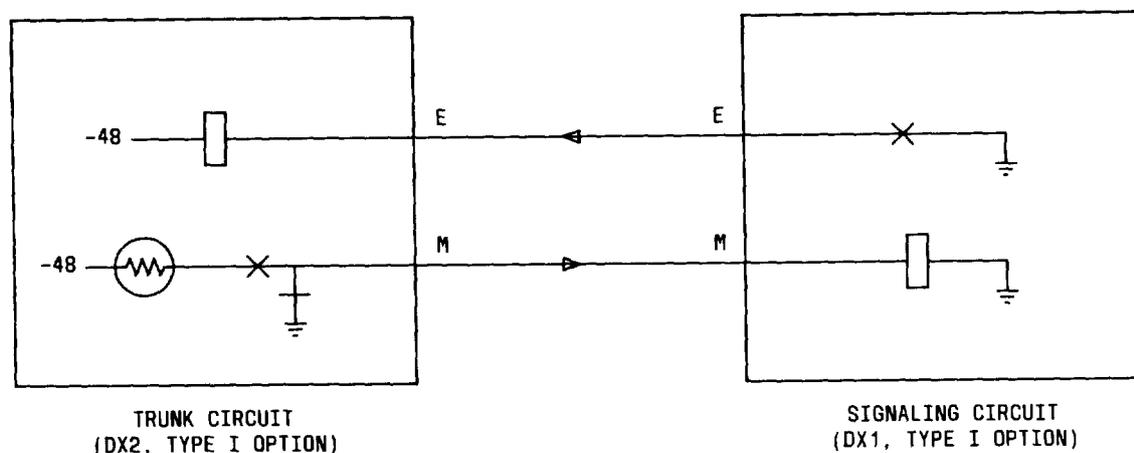

Fig. 3—Type I E&M Interface
**2.05 DX Circuit and Detector:** The HA satisfies the signaling requirements of the three types of E&M interfaces. The three types of E&M interfaces are shown in Fig. 3, 4, and 5. The HA employs a resistor duplex bridge with a voltage comparator to detect incoming pulses. It is capable of interfacing
with E&M trunk circuits (DX1 function), utilizing interface type I, II, or III. It also interfaces with E&M signaling circuits (DX2 function), utilizing interface type I or II. The E&M interface circuitry is designated such that the operation of the DX1/DX2 switch and the E&M type switch configures the E&M interface circuitry of this CFU to match the desired circuit shown in Fig. 3, 4, or 5.
**2.13 DX1/DX2:** The DX1/DX2 switch is a slide switch which slides horizontally to select either the DX1 or DX2 signaling mode. This switch is used in conjunction with the E&M switch to configure the signaling circuits shown in Fig. 3, 4, and 5.